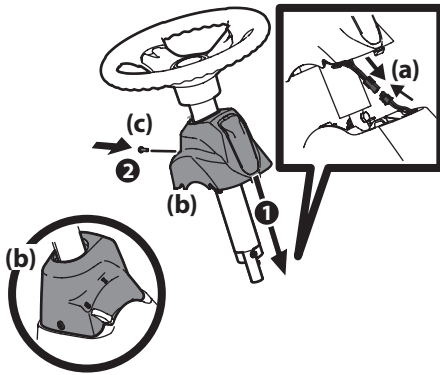

Figure 2-3
6. Remove the pedestal cap mount screw factory installed and located on the tractor's steering console. Retain the screw for later instructions. See Figure 2-3
7. Connect the headlight wire terminals (a). Slide the pedestal cap (b) down onto the tractor and slightly rotate to the right to clip into place. Secure the pedestal cap (b) with the screw (c) previously removed. See Figure 2-3.